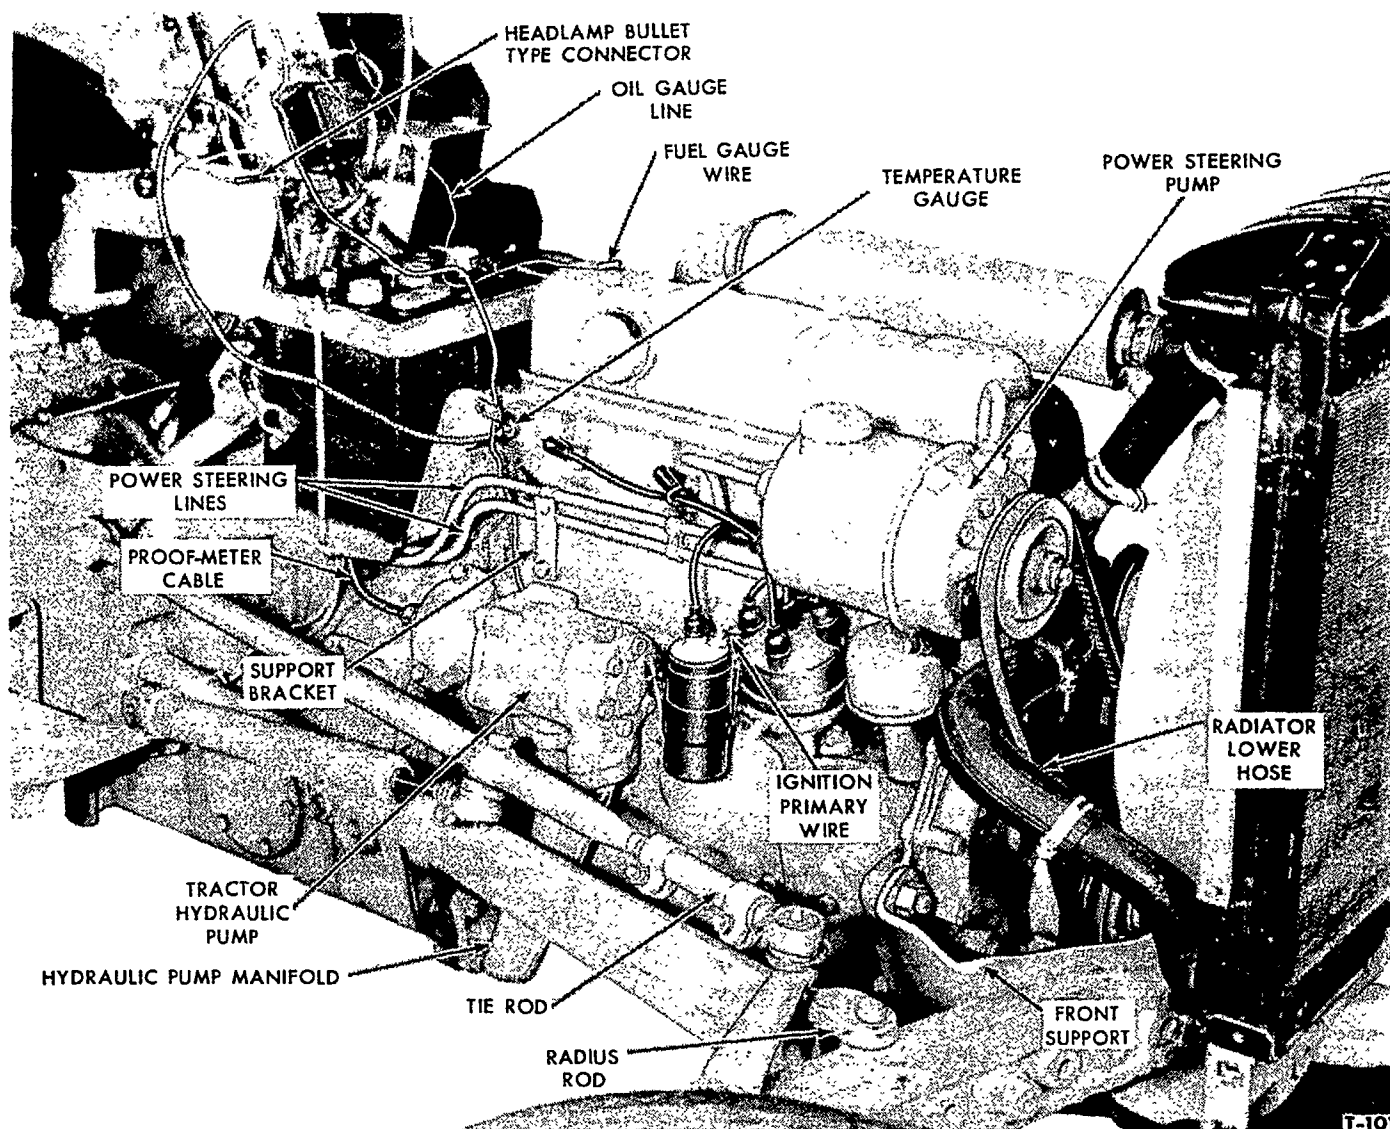
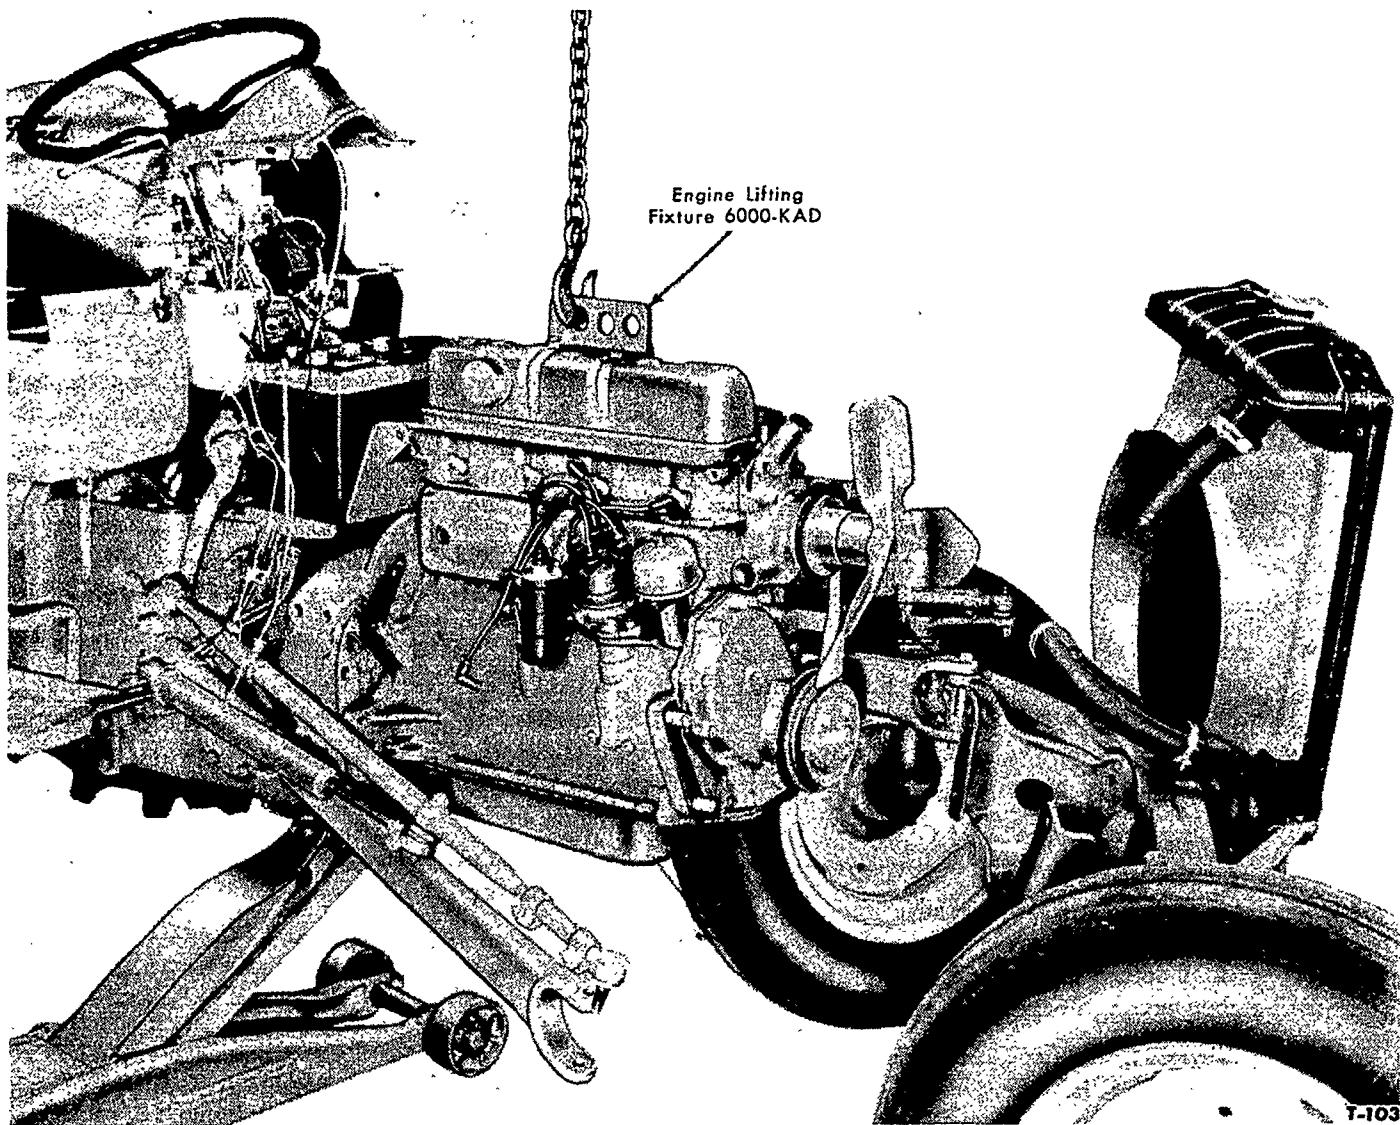

Figure 2—Right Side of Engine
Figure 4—Removing Engine
4. Disconnect the bullet type connector adjacent to the headlamp switch on the right side of the hood rear lower panel, see Figure 2. Disconnect the fuel gauge wire from the fuel tank gauge.
headlamp switch on the right side of the hood rear lower panel, see Figure 2. Disconnect the fuel gauge wire from the fuel tank.
4. Disconnect the bullet type connector adjacent to the headlamp switch on the right side of the hood rear lower panel, see Figure 2. Disconnect the fuel gauge wire from the fuel tank.
Power Steering: Disconnect the two hydraulic lines that connect the pump to the steering gear as shown in Figure 2. Remove the bolt that attaches the power steering hydraulic lines support bracket to the valve
Series 600 through 801—General Purpose Tractors: Remove the four nuts that attach the axle support, Figure 2, to the engine. Carefully swing the axle and radiator to the left side of the tractor as shown in Figure 4.
4. Remove the engine-to-transmission attaching bolts. Carefully lift the engine away from the transmission as shown in Figure 4. Mount the engine in an engine stand.
1. Attach an engine lift hook or a chain to the cylinder head as shown in Figure 4.
Series 600 through 801—General Purpose Tractors: Swing the axle support into place on the engine. Make certain that the radius rod is in place on the axle then install the four nuts that attach the frame support to the engine, see Figure 2. Install the radius rod to axle attaching bolt. Connect the tie rod to the steering arm.
6. Connect the water temperature gauge line to the engine. Connect the Proof-Meter cable to the hydraulic pump, see Figure 2.
10. On a tractor equipped with power steering, hold the pump and lines in place on the engine and install the two pump mounting bolts. Connect the two hydraulic lines to the steering gear (600 through 801 Series). Connect the hydraulic line bracket to the valve cover with the attaching bolt, see Figure 2.